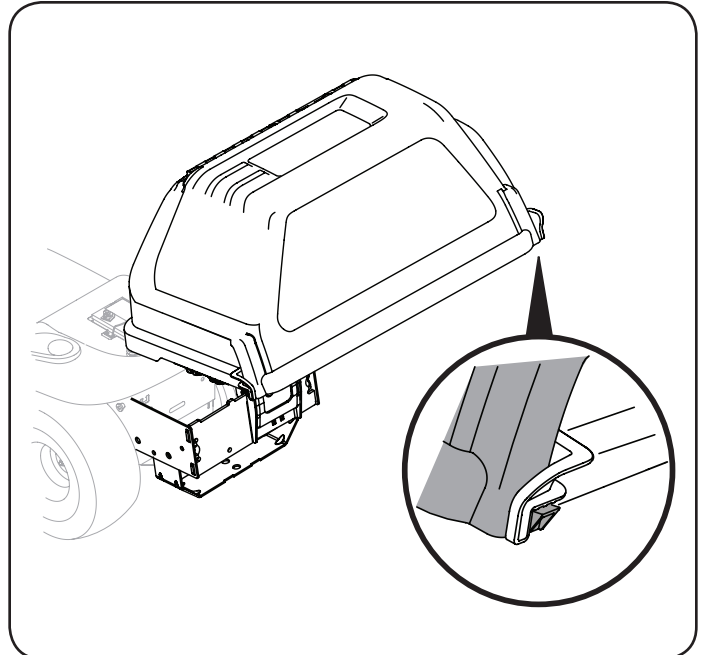

Figure 16
5. Swing the upper grass catcher cover down to close the attachment, pushing in on the rear right-side and rear left-side tabs and lock them into place under the notches on each side. Ensure a secure, snug fit. See Figure 16.